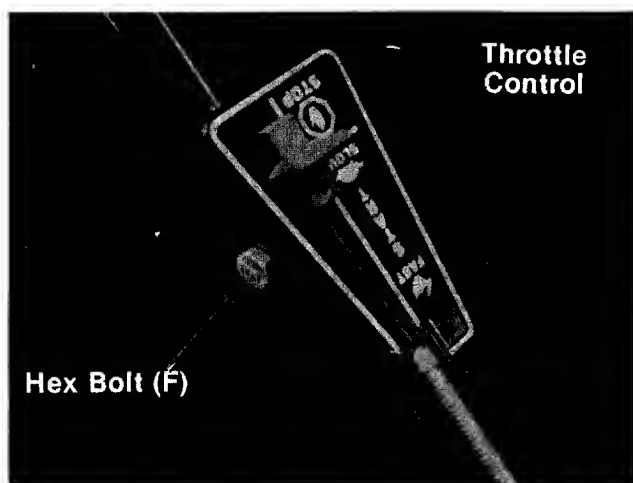

FIGURE 5.
- ← 5. Place the throttle control in position on right side of upper handle. Secure with hex bolt (F) and lock nut (G). See figure 5.